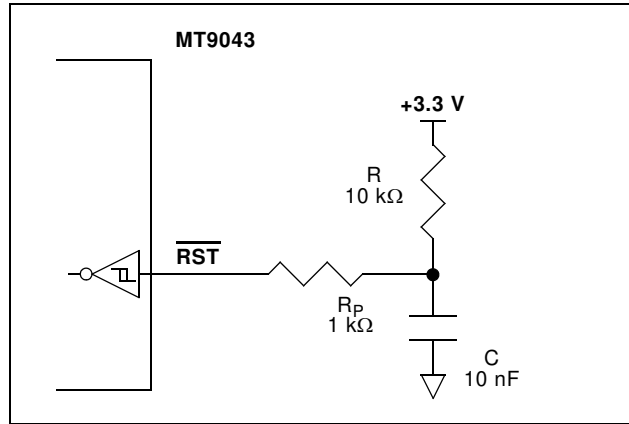

Figure 10 - Power-Up Reset Circuit
A simple power up reset circuit with about a 50 us reset low time is shown in Figure 10. Resistor R_P is for protection only and limits current into the \overline{RST} pin during power down conditions. The reset low time is not critical but should be greater than 300 ns.
* See Figure 10.